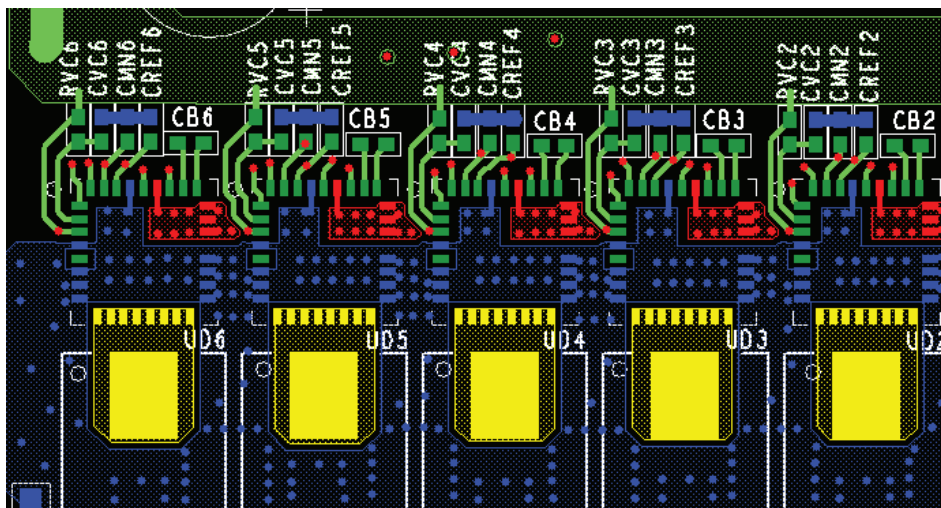
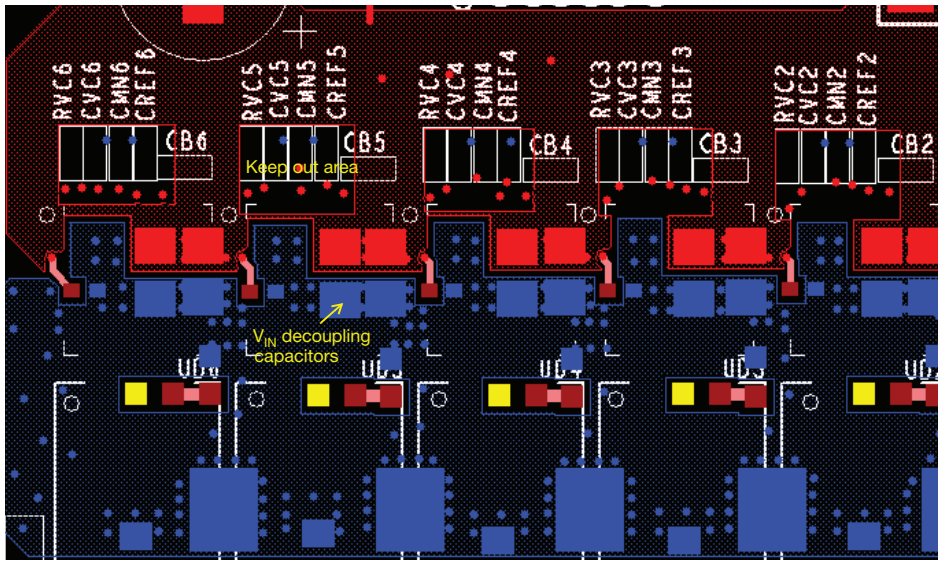

Fig. 17 - Multi-Phase PCB Layout Example Top Layer
Fig. 18 - Multi-Phase PCB Layout Example Bottom Layer
For a design with tight space requirements, these decoupling capacitors can be placed under the device, i.e., bottom layer, as shown in Fig. 18
- The IMON and IREF network and their vias should not sit on the top of the VIN plane, a keep out area is recommended, as shown in Fig. 18.
Fig. 17 and Fig. 18 show a multiphase PCB layout example.